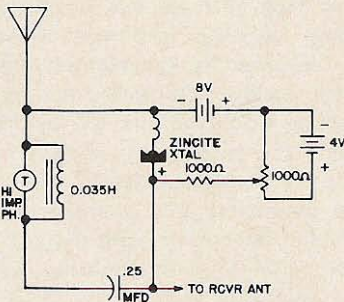

Fig. 1. RF amplifier.
The usual trap type vertical can be electrically represented as shown in Fig. 1(A). The various tuned circuits isolate sections of the antenna on different bands such that the basic antenna structure always remains a  $\frac{1}{4}\lambda$  vertical. Above their resonant
Fig. 1. Multiband trap type vertical antenna (A) forms a vertical antenna which can be represented as at (B) when operated on a frequency which is several times higher than its highest normal operating frequency.
frequencies, each tuned circuit would present a capacitive reactance. Thus, if the antenna were operated on a frequency several times higher than the resonant frequency of the highest frequency tuned circuit trap, the antenna could be electrically represented as shown in Fig. 1(B). The capacitive reactance still present would be very small because of the frequency being considered, although the series effect of the equivalent capacitors from the individual tuned circuits works to increase the total reactance on 2 meters. The total reactance
Certain deficiencies of the K6BIJ engineering department, coupled with a complete inability to penetrate the semiconductor jungle existing in this country, and viewed through a large hole in the pocket-book – resulted in working, but far from perfect, audio amplifier. It consists of Fig. 1, WIDTY's article, March, 1967, in 73, followed by Fig. 14 (operated at 6 volts and